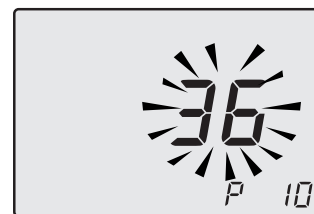

Fig. 7.34
- Scroll the various parameters using keys 15 or 16 until the letters **P10** are displayed on the LCD display, indicating that "parameter 10" (Fig. 7.34) has been activated.